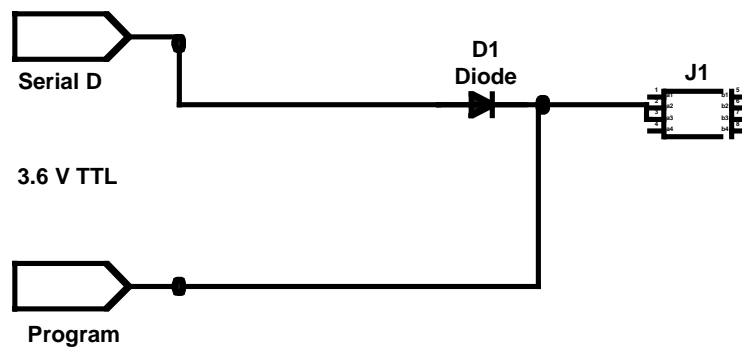

Figure 13: Using a Diode as a Switch
- Switch: Diodes can be used simply to protect sensitive inputs in CMOS devices. For example, an RF chip which shares a pin on a microcontroller will require isolation from high voltages coming from that pin when it is being used for other functions such as flash programming. See Figure 13 below.